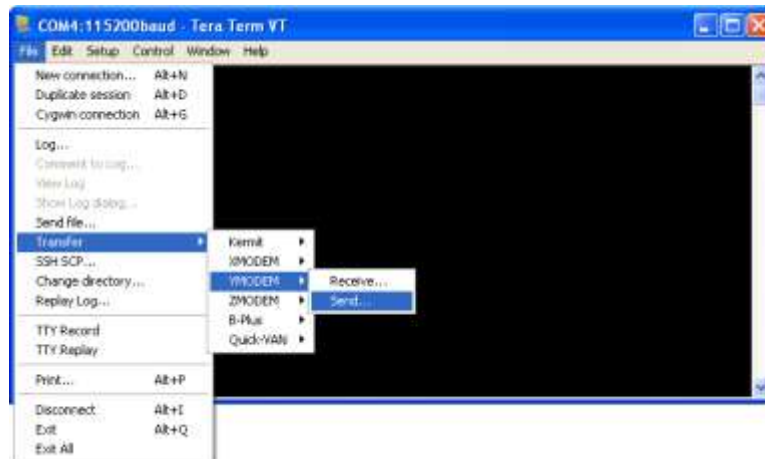

Figure 11: Tera Term Y-Modem Selection
- c) On Tera Term select File> TRANSFER FILE> YMODEM> Send. See Figure 11